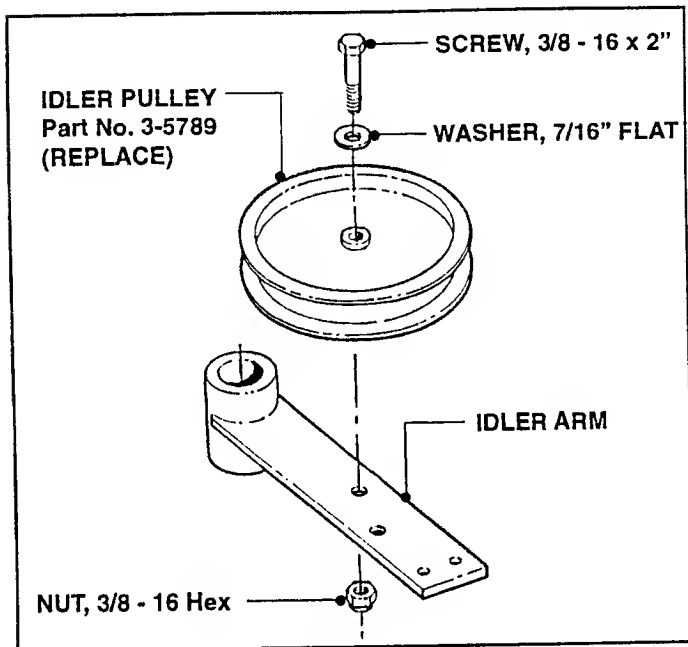

FIGURE 8.16
3. If the Idler Pulley spins freely, it is O.K. If it wobbles, or is difficult to turn, it must be replaced. See Figure 8.16.